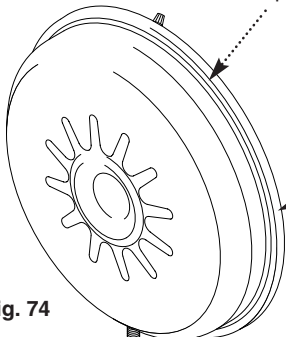

Fig. 74
4. Undo the nut on the vessel outlet spigot, and remove the locknut and spring washer securing the spigot to the boiler chassis (Fig. 74).